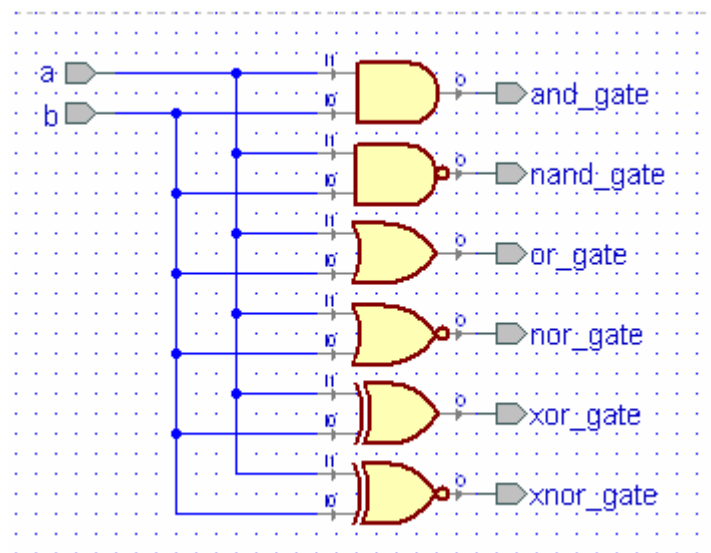
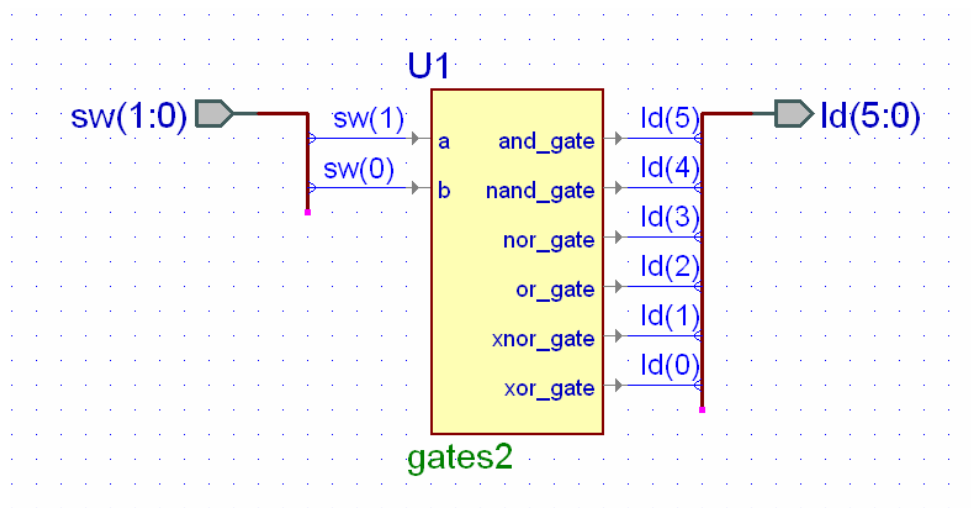

Figure 2.1 Circuit diagram for Example 2
Figure 2.3 Top-level design for Example 2
Part 4 of the tutorial in Appendix A shows how to connect two inputs *a* and *b* to the inputs of six different gates using the block diagram editor (BDE) in Active-HDL. The result is shown in Fig. 2.1. Note that we have named the outputs of the gates the name of the gate including an underscore. Identifier names in VHDL can contain any letter, digit, underscore `_`, or `$`. The identifier can not begin with a digit or be a VHDL keyword. VHDL is *not* case sensitive.
The logic diagram in Fig. 2.1 contains six different gates. This logic circuit is described by the VHDL program shown in Listing 2.1. The first line in Listing 2.1 is a comment. Comments in VHDL follow the double dash --. All VHDL programs begin with an *entity* statement containing the name of the entity (*gates2* in this case) followed by a list of all input and output signals together with their direction and type. We will generally use lower case names for signals. The direction of the input and output signals is given by the VHDL statements *in*, *out*, or *inout* (for a bi-directional signal).
To describe the output of each gate in Fig. 2.1 we simply write the logic equation for that gate preceded by the assignment operator, *<=*. These are *concurrent* assignment statements which means that the statements can be written in any order.
Part 5 of the tutorial in Appendix A shows how to create a top-level design for the *gates2* circuit. In order to use the constraint files *basys2.ucf* or *nexys2.ucf* described in Example 1 we must name the switch inputs $sw(i)$ and the LED outputs $ld(i)$. This top-level design, as created in Part 5 of Appendix A is shown in Fig. 2.3. The module *gates2* in Fig. 2.3 contains the logic circuit shown in Fig. 2.1. Note that each wire connected to a bus must be labeled to identify its connection to the bus lines.
Compiling the top-level design shown in Fig. 2.3 will generate the VHDL program shown in Listing 2.2. The inputs are now the two rightmost slide switches, $sw(1:0)$, and the outputs are the six right-most LEDs $ld(5:0)$. To associate these inputs and outputs with the inputs a and b and the six output in the $gates2$ component in Fig. 2.1 and Listing 2.1 we use the VHDL *port map statement*
This VHDL *port map* statement begins with an arbitrary name for the component in the top-level design. Here we call it U1. This is followed by the name of the component being instantiated, in this case *gates2* from Listing 2.1. Then using the *port map* statement enclosed in parentheses are the inputs and outputs from Listing 2.1 associated with corresponding inputs and outputs in the top-level design in Fig. 2.3. Note that we connect the input *a* in Listing 2.1 to the input *sw*(1) on the FPGA board. The input *b* in Listing 2.1 is connected to *sw*(0) and the outputs *and_gate*, *nand_gate*, *or_gate*, *nor_gate*, *xor_gate*, and *xnor_gate* are connected to the corresponding LED outputs *ld*(5:0). These associations can be made in this way in any order. The *port map* statement in Listing 2.2 generated from the top-level block diagram are associated in alphabetical order.